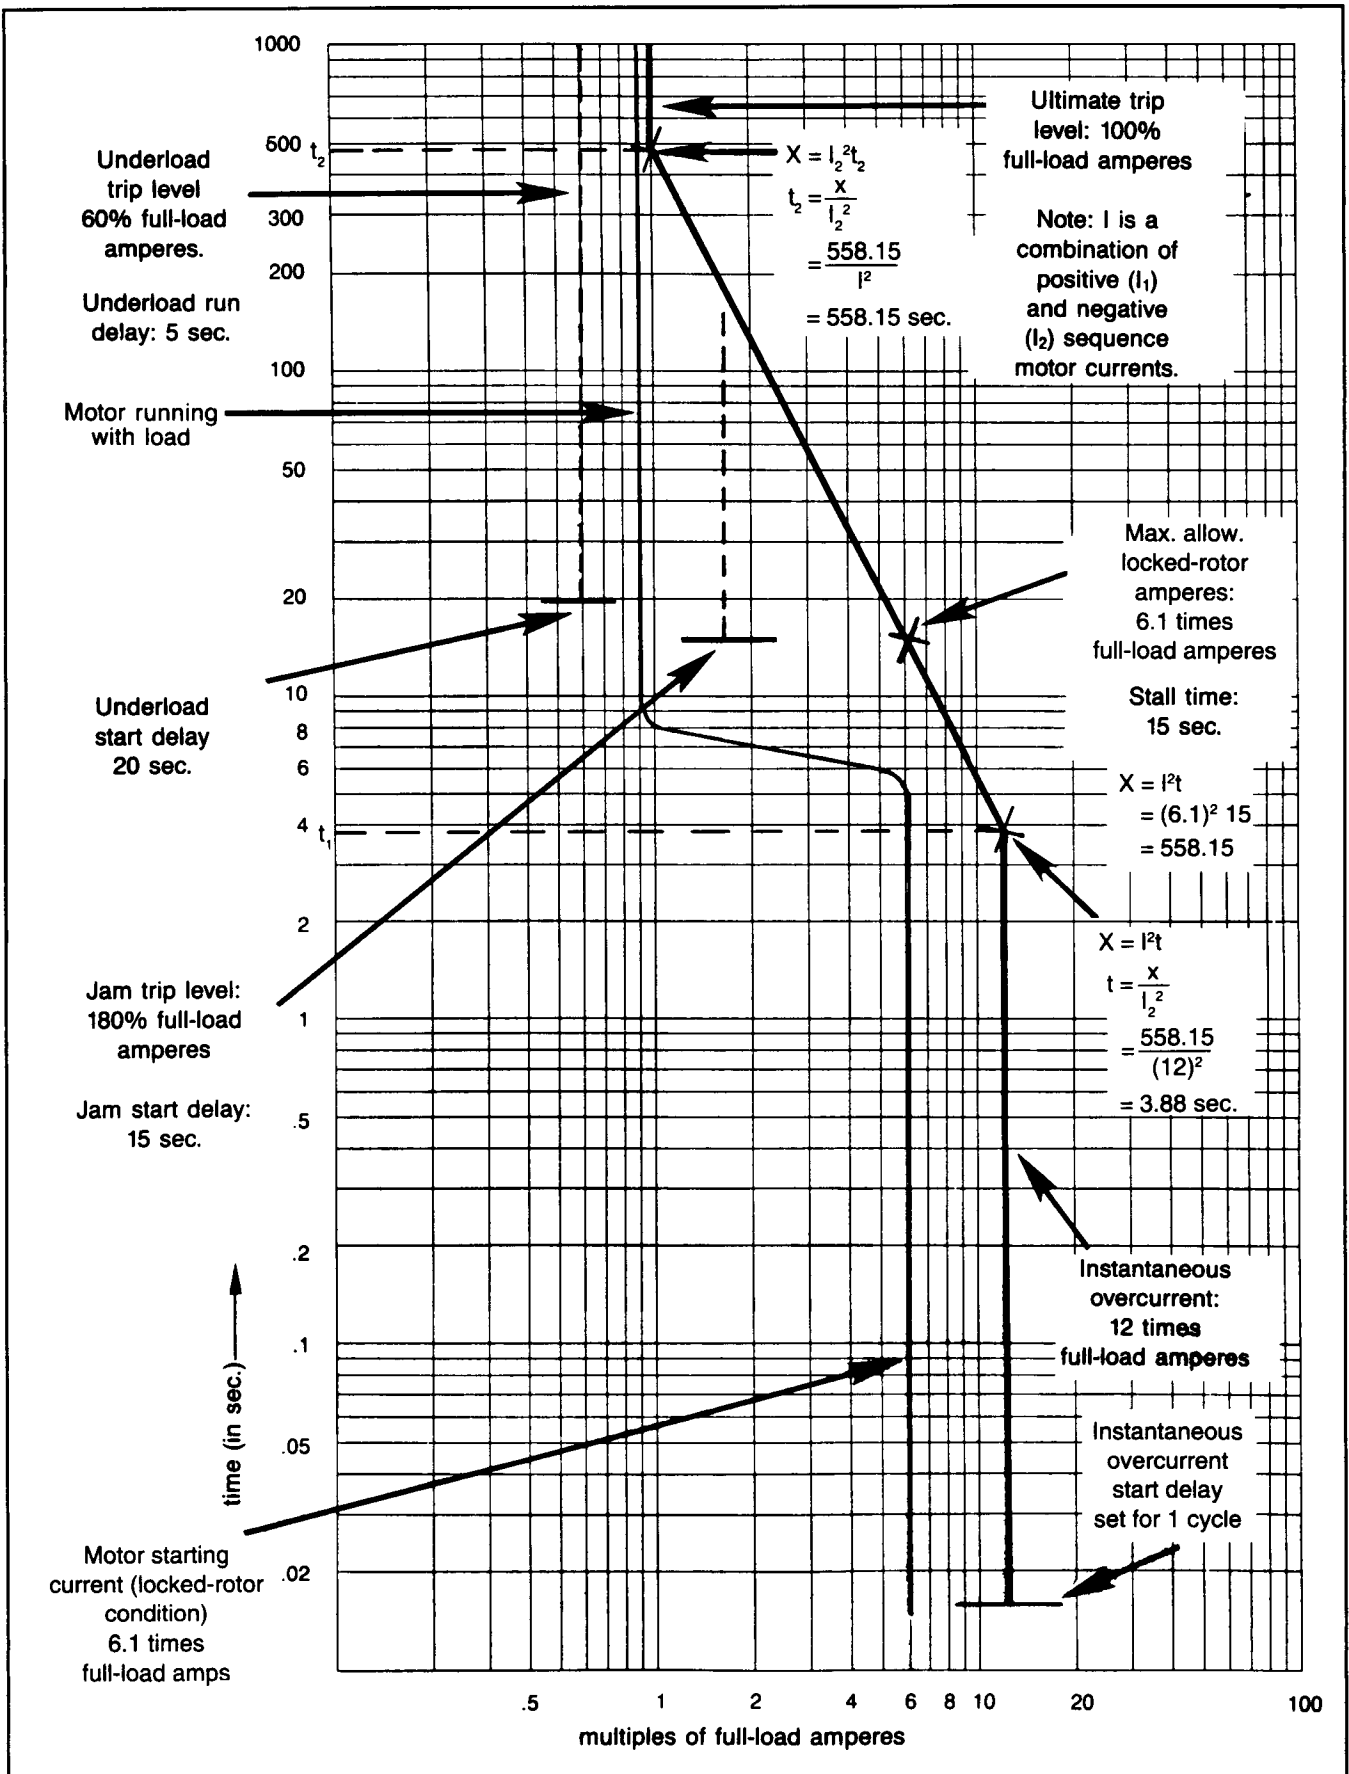
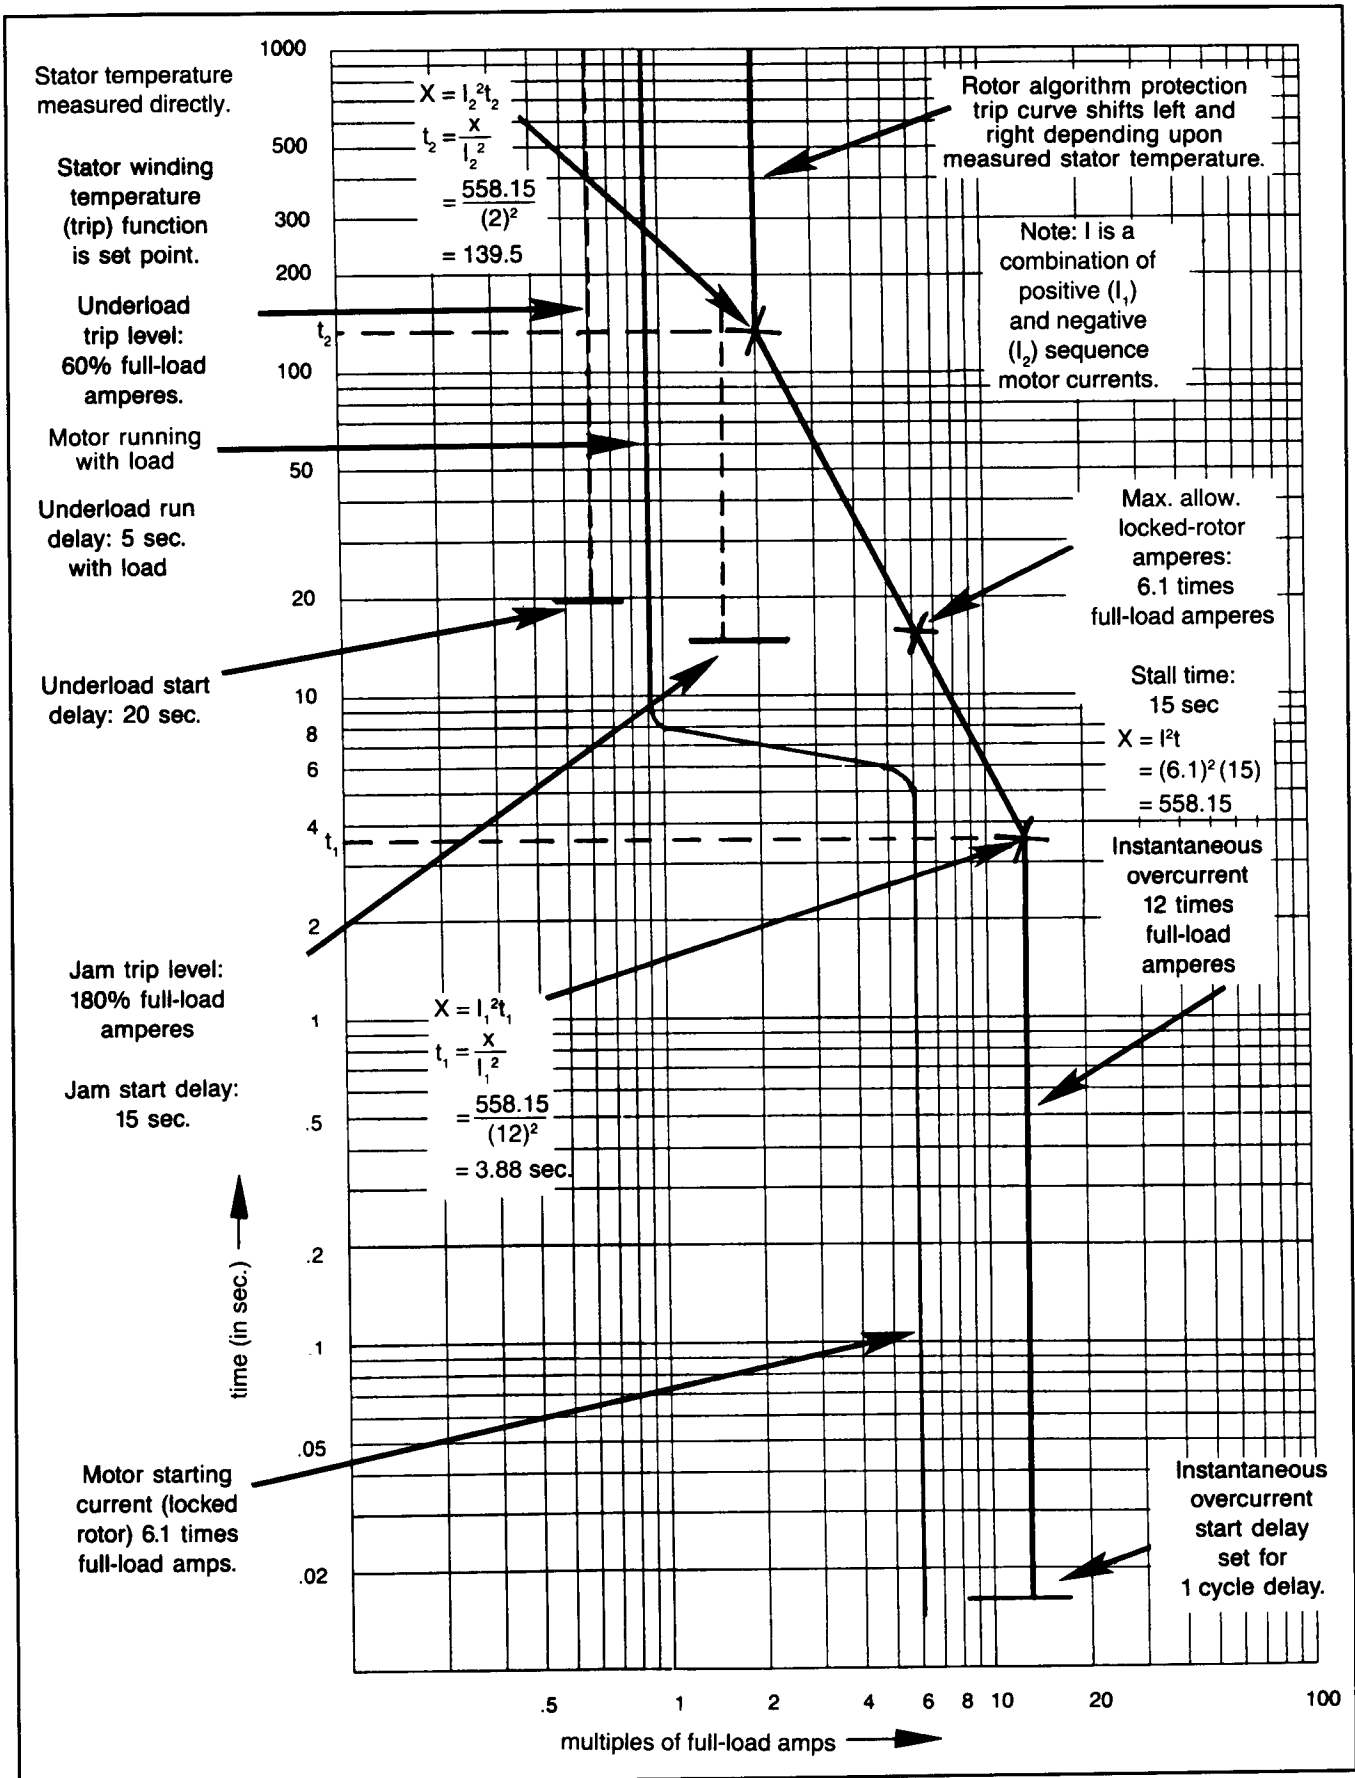

Figure 7.4 — Motor Protection Curve (without RTDs)
Figure 7.5 — Motor Protection Curve (with RTDs)
the IQ-1000 II without RTDs are shown in Figure 7.4. The use of RTDs is assumed in Figure 7.5. The following data were used:
The difference in the typical curve caused by the addition of RTDs is shown in Figure 7.5. It centers on the time period after 60 seconds. (When RTDs are used, the actual monitored temperature automatically overrides the ultimate trip function's setpoint.)
The effects of the motor winding temperature (items 3 and 7) setpoints, which can be used with RTDs, are not evident in Figure 7.5. These functions are independent of the effects of temperature on the I²T algorithm's trip curve. These functions' setpoints are based on the recommended maximum stator temperature, as supplied by the motor manufacturer. Depending upon the specific motor winding temperature setpoints, the temperature trip curve shifts to the left or right.